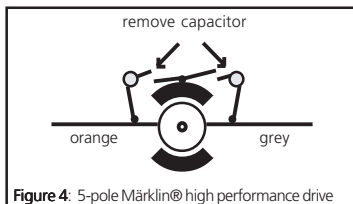

Figure 4: 5-pole Märklin® high performance drive
- The two suppressors that connect the motor terminals with the motor chassis must be removed (see figure 4).
- However, all RFI suppression capacitors that connect the motor terminals with the (motor) chassis must be removed (see figure 4).